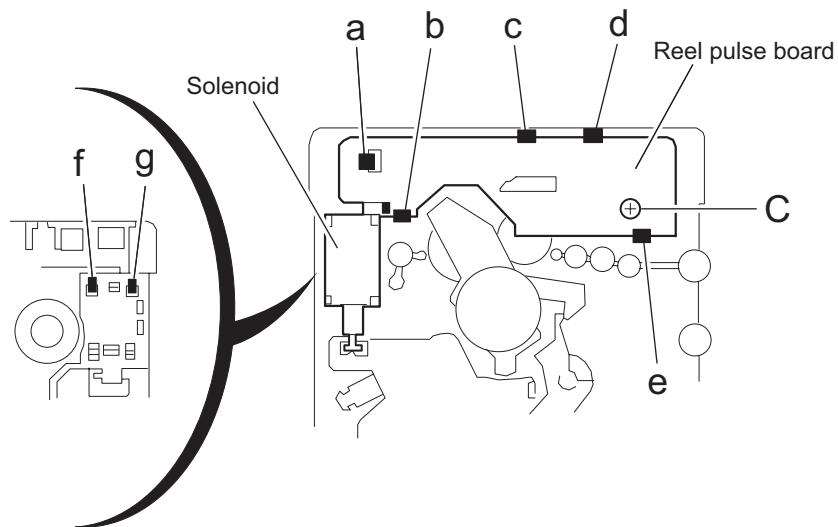

Fig.10
3.4.5 Removing the reel pulse board and solenoid (See Fig.10)